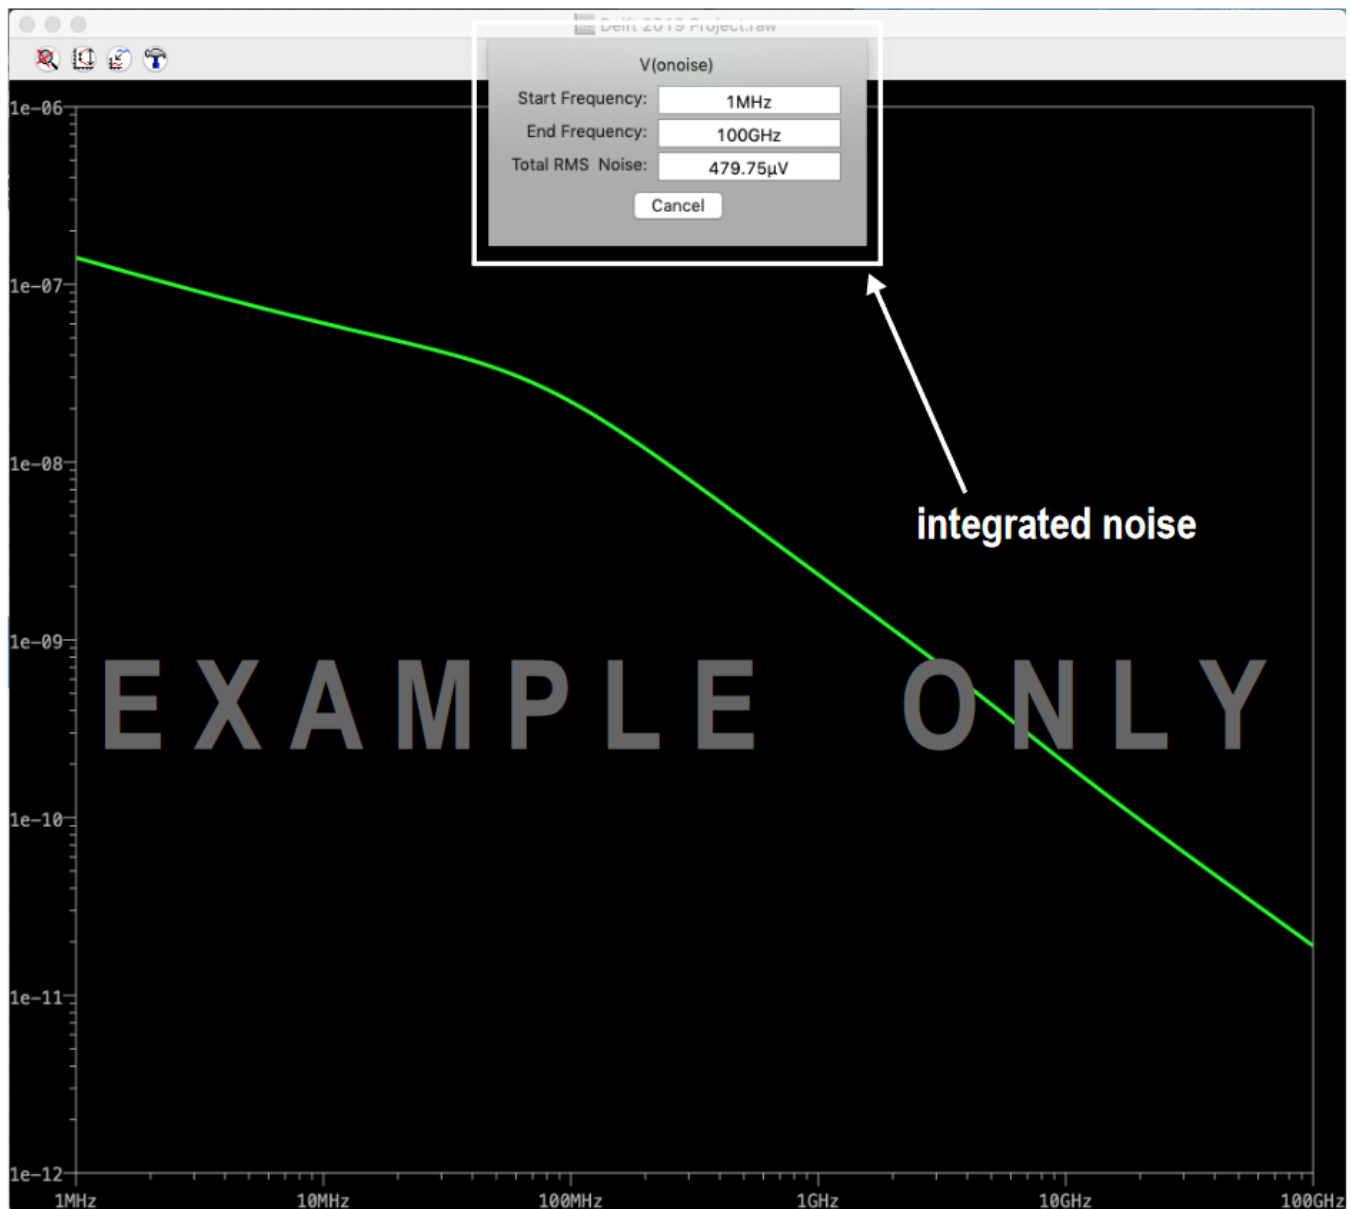

Fig.13. Onoise vs frequency and integrated noise shown.
- 8) Plot of output noise power density versus frequency (10 kHz – 100 GHz). Please make sure the integrated noise is shown (fig. 13).